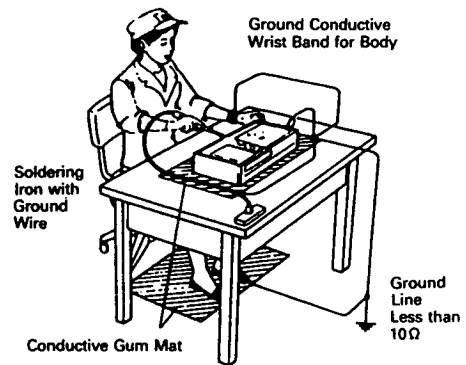

Fig. 3
1. Remove the CD mechanism assembly by referring to the "EXPLODED VIEW II" on page 31 (See Fig. 3).